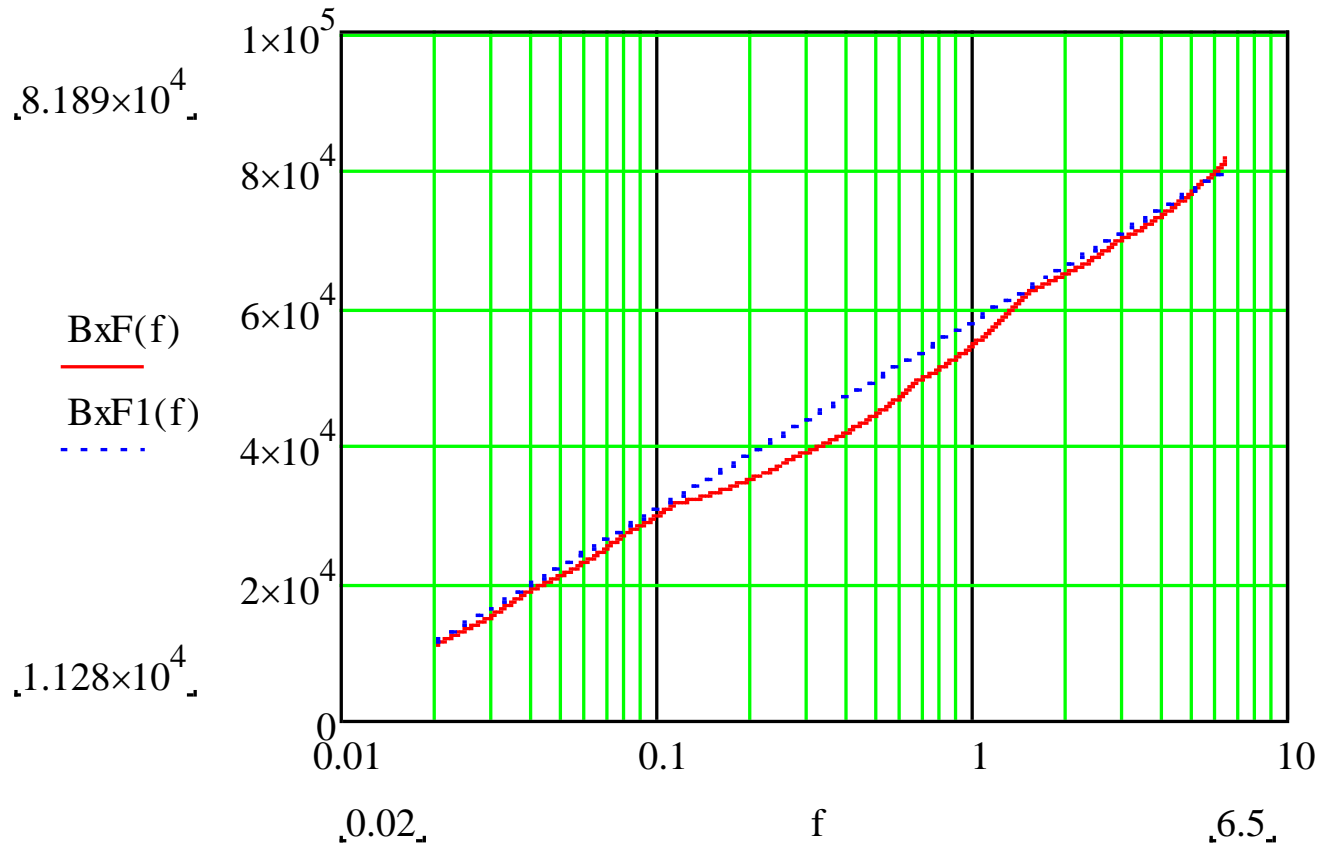

Figure 2
- The curve is the red line in figure 2.
- An function BxF1(f) (dotted line in figure 2) fitting the Maxima data is generated to facilitate further quantitative analysis.